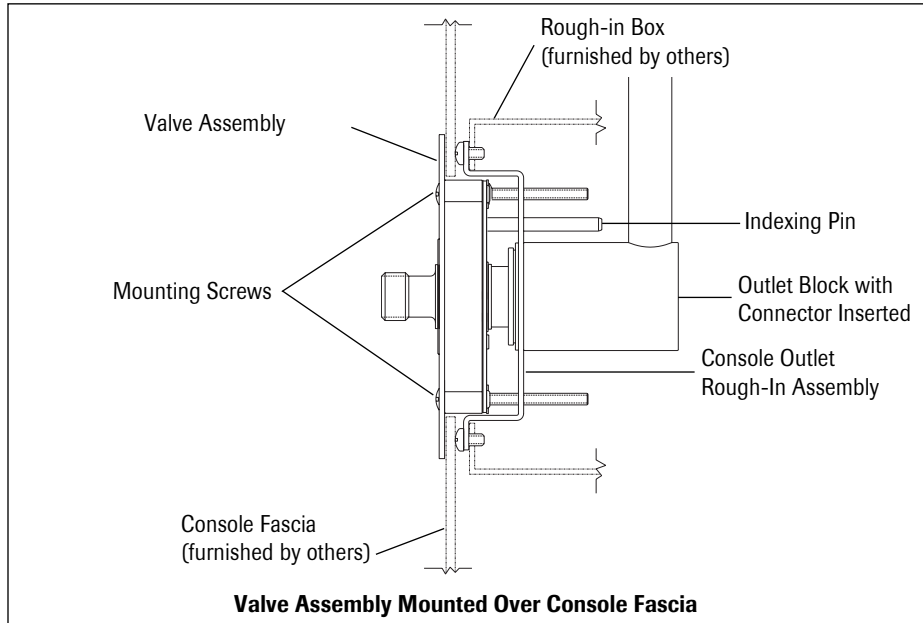

Figure 2
2. Installing the valve assembly over the console fascia (Figure 2):